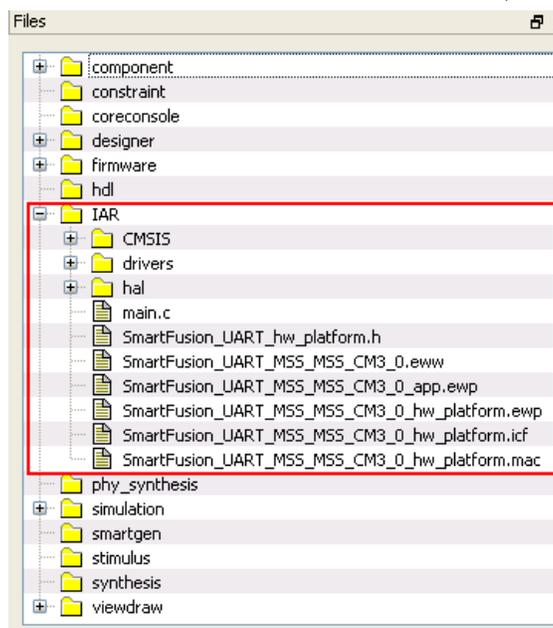

Figure 13 · Files Window After Generating the Project
7. Ensure that the IAR folder is created with the folders and files, as shown in Figure 13.